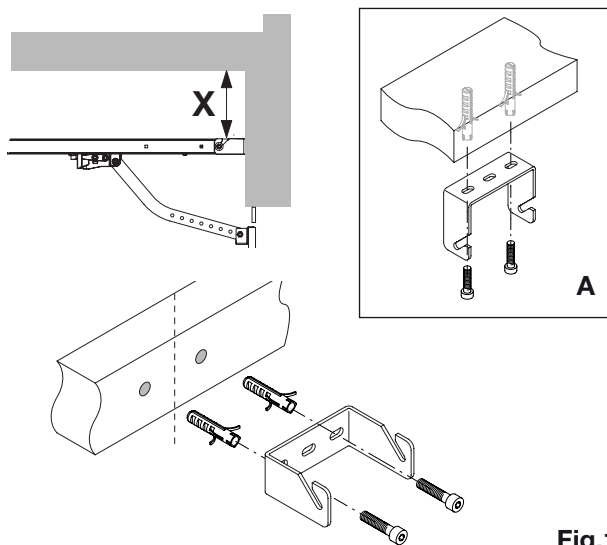

Fig.19
1) Respecting the measurements indicated in the "Preliminary checks" paragraph, trace the two holes at the centre of the door for fixing the bracket JMP.3, as indicated in figure 19.